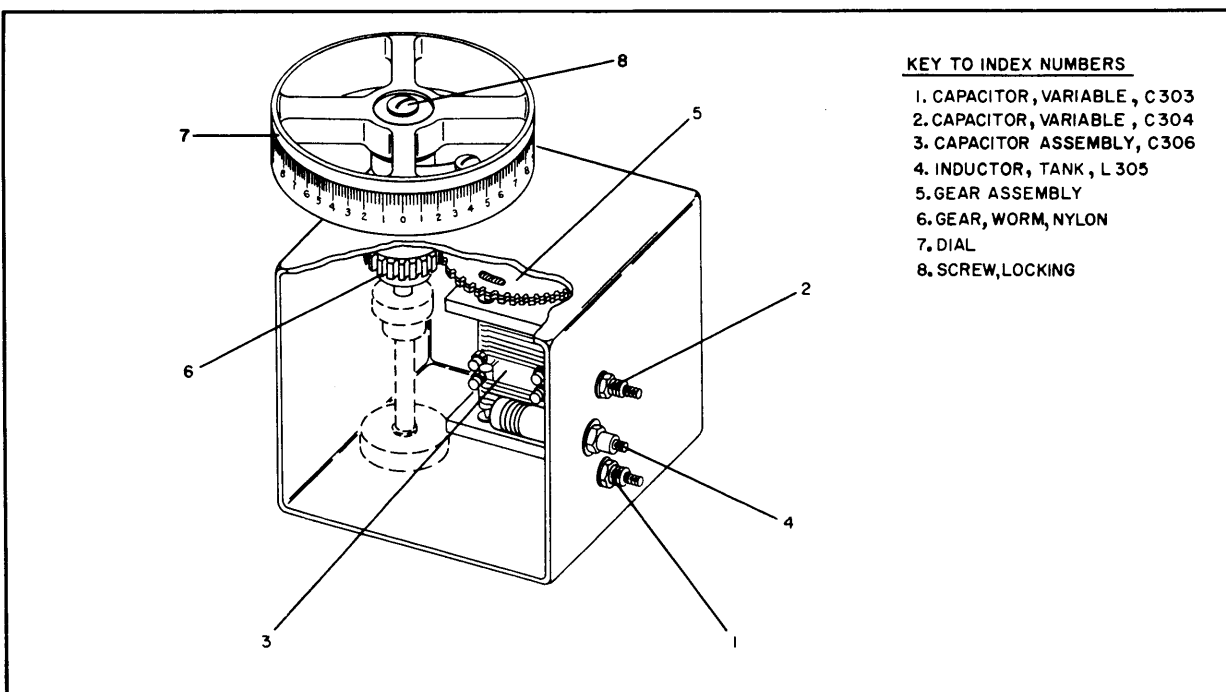
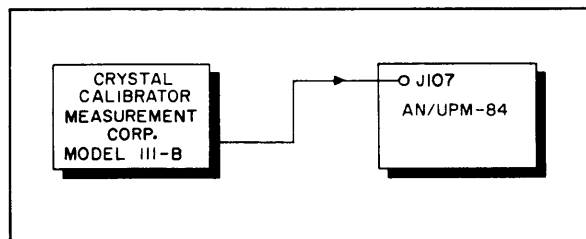

Figure 6-8. Location of Adjustment Controls, Spectrum Calibrator Assembly
Figure 6-9. Alignment of Spectrum Calibrator, Test Set-up Diagram
6-14. To check the minimum performance standards of the spectrum calibrator circuit, observe the pip on the self-contained display of the spectrum analyzer. Use a crystal calibrator, such as Measurements Corp. Model 111-B, or equivalent, to obtain markers at 1 mc and 10 mc. Refer to figure 6-8 for a view showing location of the adjustment controls. Set up the test equipment as shown in figure 6-9, and proceed as follows.
l. In the event that the alignment error of the spectrum calibrator is greater than 0.5 mc, realignment will be required. Proceed as directed in paragraph 6-15. The parenthetical numbers which follow refer to the index numbers of figure 6-8.